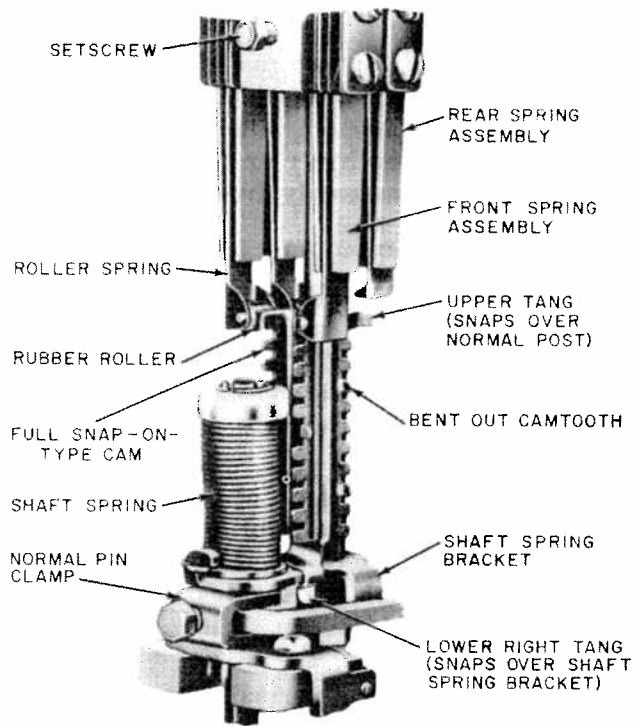
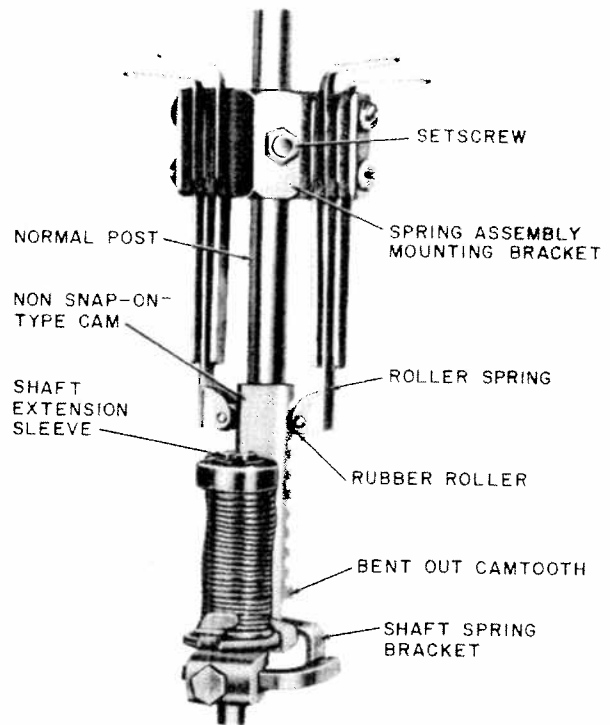
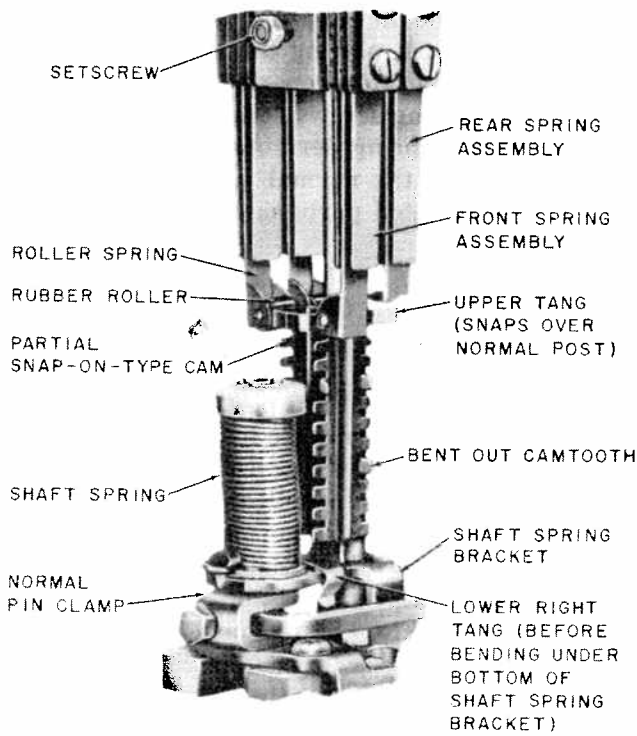

Fig. 11 — Normal Post Spring Assembly Having Rubber Rollers Operated by Full Snap-On-Type Cam
Fig. 13 — Normal Post Spring Assembly Having Rubber Rollers Operated by Nonsnap-On-Type Cam (single cam illustrated)
Fig. 12 — Normal Post Spring Assembly Having Rubber Rollers Operated by Partial Snap-On-Type Cam
Normal Post Spring Assembly With Cam per Fig. 11, 12, 13, and 14
(1) To replace the normal post spring assembly on a switch equipped with a helical shaft spring assembly, it is necessary to replace the shaft spring bracket, normal pin, and normal post spring assembly, and to add a normal post cam in accordance with Fig. 5. Full-, partial-, or nonsnap-on-type cams shown in Fig. 11 to 13 may be used.
(2) Tag and disconnect the leads to the normal post spring assembly. Loosen the normal post spring assembly clamping screw with the 3-inch C screwdriver or the 555A wrench. Lift the spring assembly from the top of the normal post.
(4) If the camteeth are not bent out to operate the normal post springs at the proper levels, bend out the camteeth corresponding to the levels at which the springs are to operate as covered in 3.14(5).
(5) Then mount the normal post cam as covered in 3.14(7) if it is a full snap-on-type cam per Fig. 11; as covered in 3.14(8) if it is a partial snap-on-type cam per Fig. 12; or as covered in 3.14(9) if it is a nonsnap-on-type cam per Fig. 13 and 14.
(6) Mount the new spring assembly on the normal post, placing the assembly so that the springs operate properly. Tighten the assembly mounting screws securely. Connect the leads to the spring terminals. Check all requirements on the normal post spring assembly and associated parts as covered in Section 030-705-703.
(1) To replace a normal post spring assembly on a switch having a cup-type shaft spring assembly, it is necessary to replace the cup spring assembly by a helical shaft spring assembly and to add a normal post cam and normal post spring assembly in accordance with Fig. 5. Full-, partial-, or nonsnap-on-type cam shown in Fig. 11 to 13 may be used.
(2) Tag and disconnect the leads connected to the normal post springs. Remove the assembly as covered in 3.10.
(3) Remove the cup spring assembly, the shaft spring bracket, the normal pin, and the
- (4) If the switch is equipped with a normal post collar, remove and discard it.
- (5) Mount the shaft extension sleeve, normal pin clamp, normal pin, shaft spring bracket, and shaft spring in accordance with Section 030-705-802.
(6) If the camteeth are not bent out to operate the normal post springs at the proper levels, bend out the camteeth corresponding to the levels at which the springs are to operate as covered in 3.14(5).
(7) Then mount the normal post cam as covered in 3.14(7) if it is a full snap-on-type cam per Fig. 11; as covered in 3.14(8) if it is a partial snap-on-type cam per Fig. 12; or as covered in 3.14(9) if it is a non-snap-on-type cam per Fig. 13 and 14.
(8) Mount the new spring assembly on the normal post, placing the assembly so that the springs operate properly. Tighten the assembling mounting screw securely. Connect the leads to the spring terminals. Check all requirements on the normal post spring assembly and associated parts as covered in Section 030-705-703.
- (1) To replace a normal post cam, remove the cam as covered in (2) if it is a full snap-on-type cam per Fig. 11; as covered in (3) if it is a partial snap-on-type cam per Fig. 12; or as covered in (4) if it is a nonsnap-on-type cam per Fig. 13 and 14. If the proper teeth on the replacing cam have not been bent out, bend out as covered in (5) the teeth corresponding to the levels at which the normal post springs are to be operated. Mount the replacing cam as covered in (7) if it is a full snap-on-type cam per Fig. 11; as covered in (8) if it is a partial snap-on-type cam per Fig. 12; or as covered in (9) if it is a nonsnap-on-type cam per Fig. 13 and 14.
(2) Full Snap-On-Type Cam per Fig. 11
(3) *Partial Snap-On-Type Cam per Fig. 12*
(4) *Nonsnap-On-Type Cam per Fig. 13 and 14*
(6) *General:* If the proper teeth have not been bent out, bend out as covered in (5) teeth corresponding to the levels at which the normal post springs are to be operated. Then proceed as covered in (7), (8), or (9).
(7) *Full Snap-On-Type Cam per Fig. 11*
(8) *Partial Snap-On-Type Cam per Fig. 12*
(9) *Nonsnap-On-Type Cam per Fig. 13 and 14*